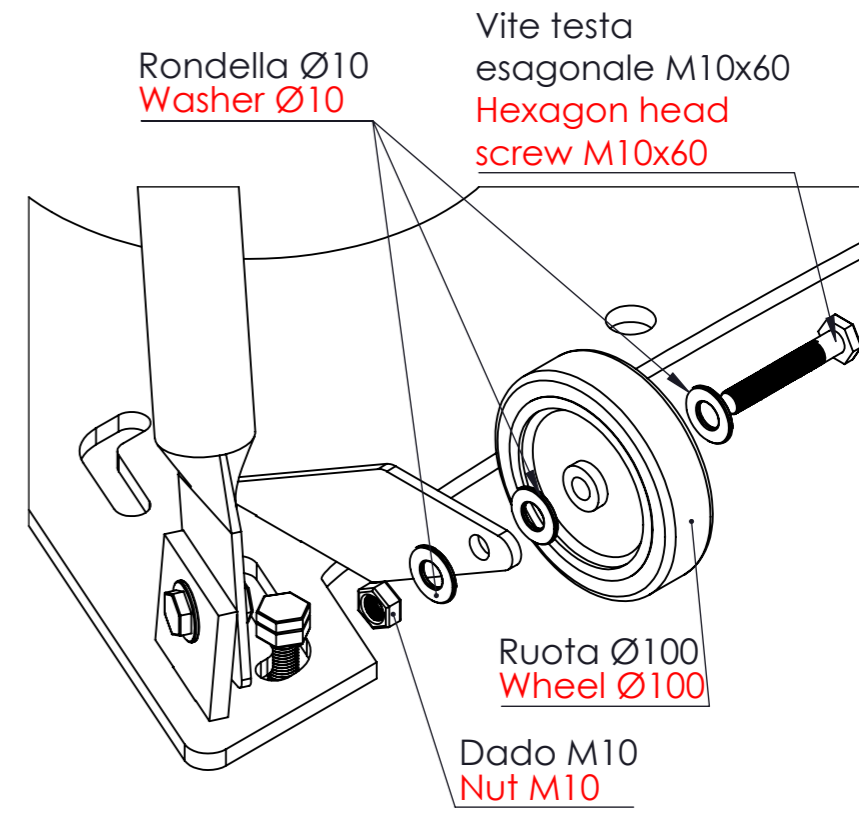

FIG. 4
5. Fit the wheels using the M10x60 hexagon head screws, inserting washers and M10 nut as shown in Figure 4, and fully tighten all fastenings.